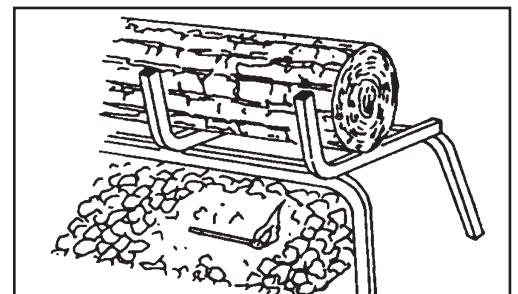

Figure 10. Lighting the log set.
- C. Lay match on top of embers and granules near gas burner input. **Do not hold match in hand. (See Figure 10)**